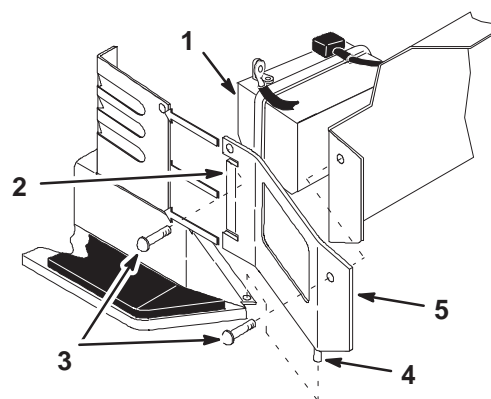

Figure 38
4. Remove the right side panel for clearance when removing battery (Fig. 38). Remove the screws and lift up the panel to clear the pin and slide panel tabs out from the steering tower.
1. Install the battery into the tractor (Fig. 38).
5. Install the right side panel by sliding tabs into steering tower and inserting pin into flange of footrest. Secure with screws (Fig. 38).